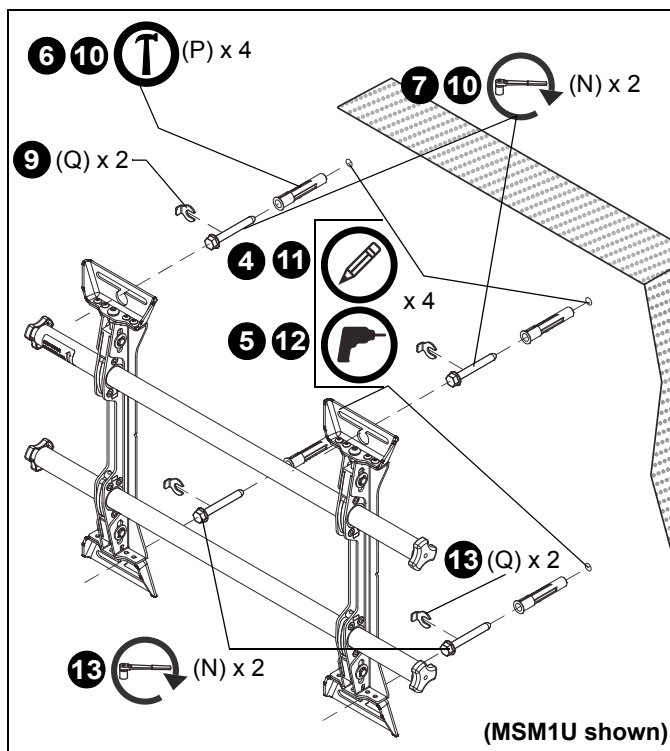

Figure 3
4. Using a level, mark the wall through both upper mounting slots. (See Figure 3)
6. Install an anchor (P) into each pilot hole using a hammer, making sure that the anchor is flush with the wall.
7. Partially install two 5/16 x 2-1/2" flanged lag bolts (N) into pilot holes but do not tighten to wall.
8. Hang mount (CC), aligning upper mounting slots over lag bolts and adjust side-to-side for proper location.
9. Place one slotted washer (Q) over each flanged lag bolt. (See Figure 3)
10. Tighten lag bolts to secure mount (CC) to wall at upper mounting slots.
11. Mark the attachment points for the lower mounting slots, making sure the attachment points are located on the studs. (See Figure 3)
12. Drill 3/8" x 3-1/2" (9.5mm x 88.9mm) pilot holes at markings for lower mounting holes. (See Figure 3)
13. Use two 5/16 x 2-1/2" flanged lag bolts (N) and two 5/16" slotted washers (Q) to attach the mount to the wall through the lower mounting holes. (See Figure 3)